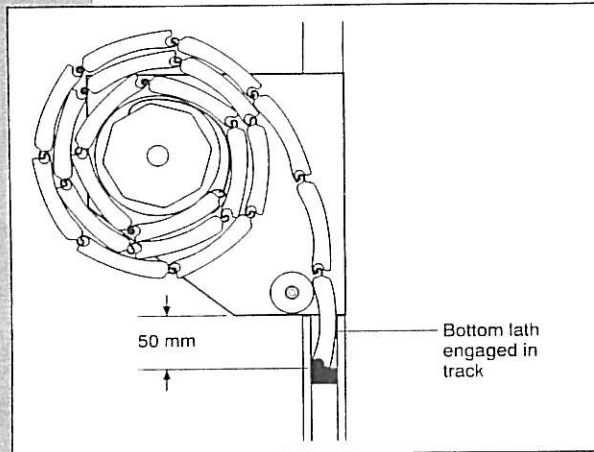

Fig 26 Fully open position
- 9.1.7 Use the Motor override handle to move the curtain to the correct OPEN position. **IMPORTANT** see Fig 26 for correct OPEN position.